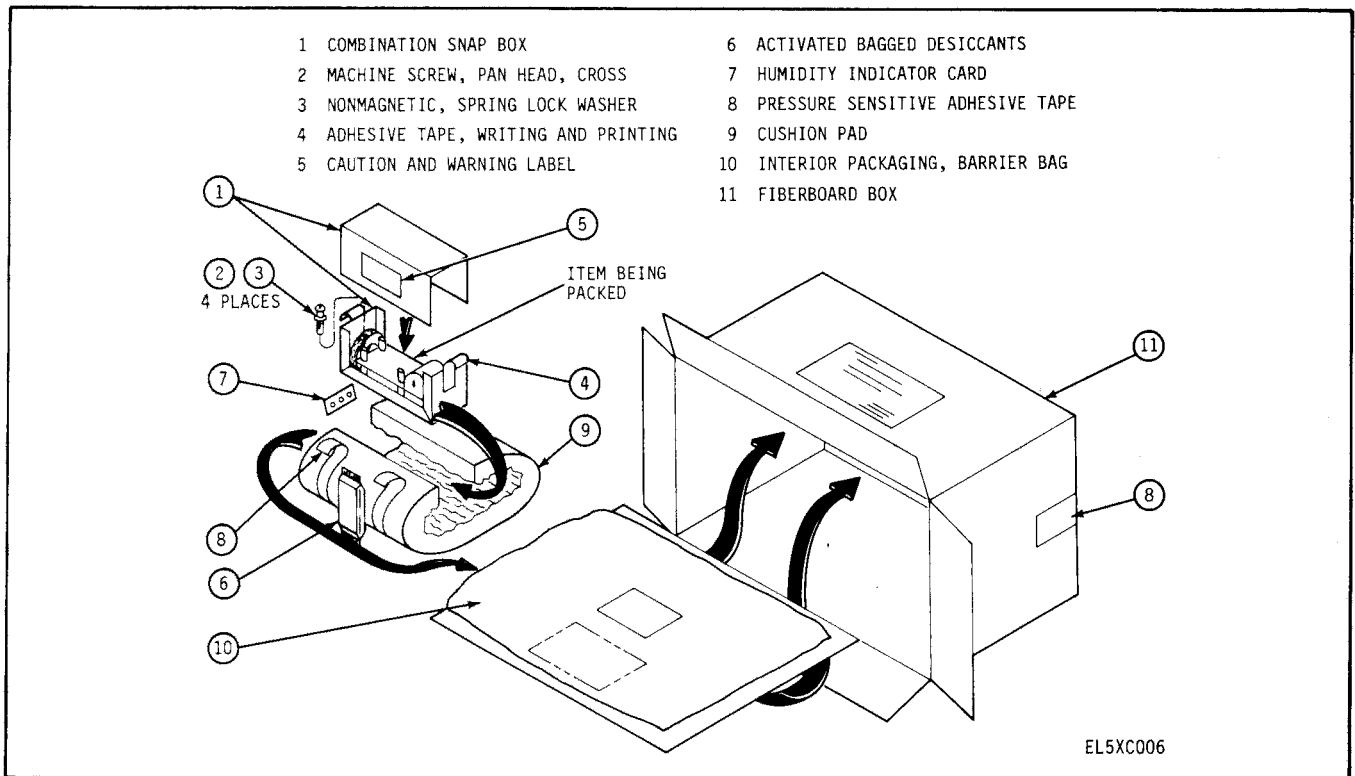

Figure 2-3. Indicator Board No. 1 Packaging Diagram
(2) For indicator board A1, refer to figure 2-3.